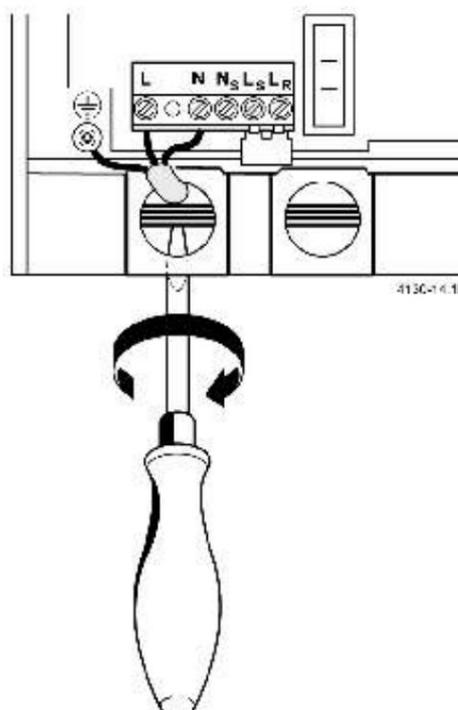

Fig. 13
• Pass the cable through the gland and connect it, figure 13.